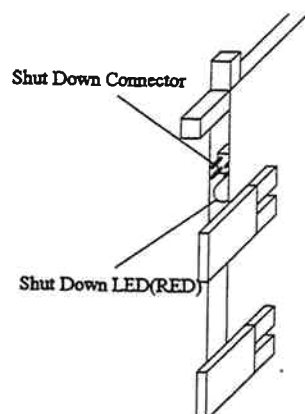

Fig. 3.7.5.4.2-3 Shut Down LED
- a. Confirm that the Shut Down LED lights.(Fig. 3.7.5.4.2-3) If the LED does not light, see Connection of Shut Down Jumper(INST03-2600).